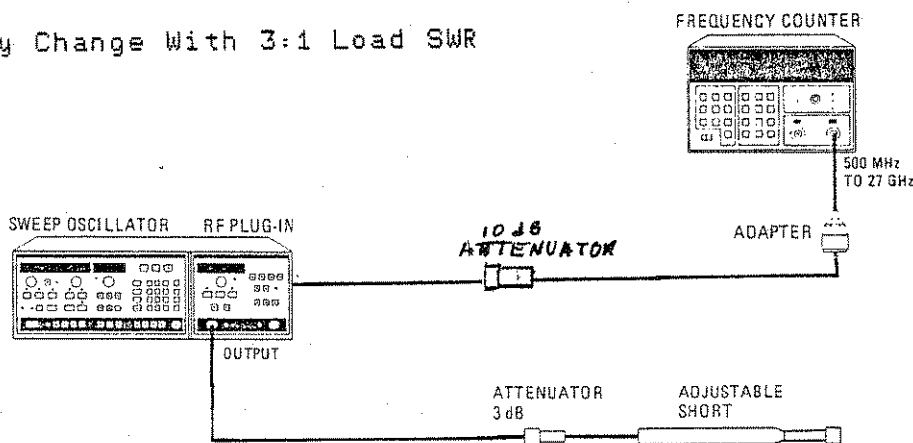

Figure 4-6. Frequency Change with 3:1 Load SWR Test Setup
- 1². Connect equipment as shown in Figure 4-6. Press the 8350A [INSTR PRESET], [CW] [1] [GHz], then [POWER LEVEL] [1] [0] [dBm].